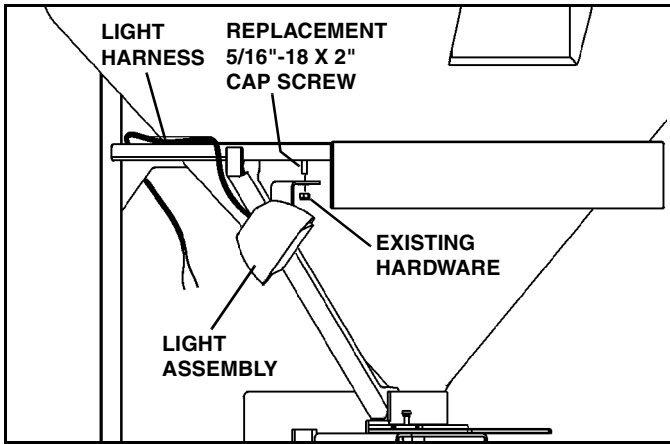

Figure 1-4
1. Mount Light Assembly on either side of spreader using (1) supplied 5/16"-18 x 2" hopper mounting cap screw 98100167 to replace the existing 5/16"-18 x 1-3/4" cap screw at the left rear or right rear corner of the hopper. (See Figure 1-4, left side shown). Secure with existing 5/16" locknut.